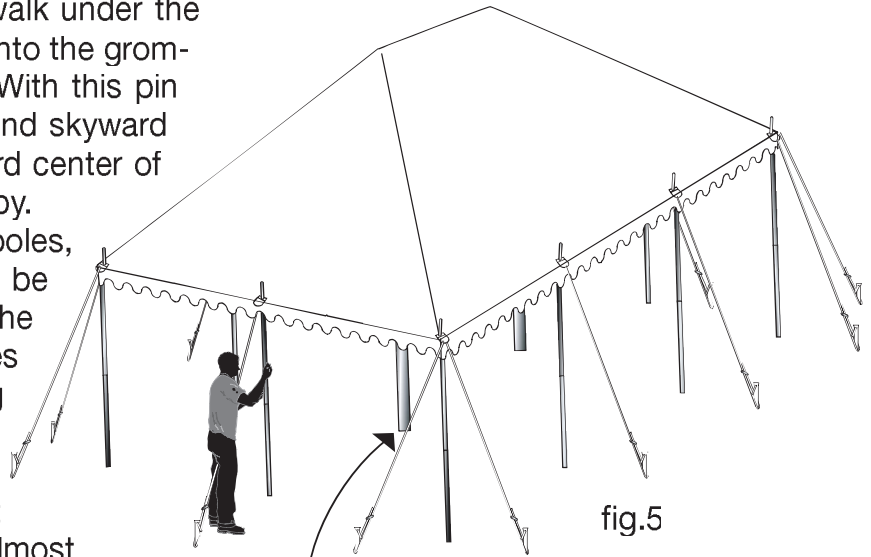

fig.5
- With all center poles almost vertical, bring them into line. Have someone stand at one end of the tent. Align each center pole as directed by that person. Then align each center pole from the sides of the tent. See fig.5.